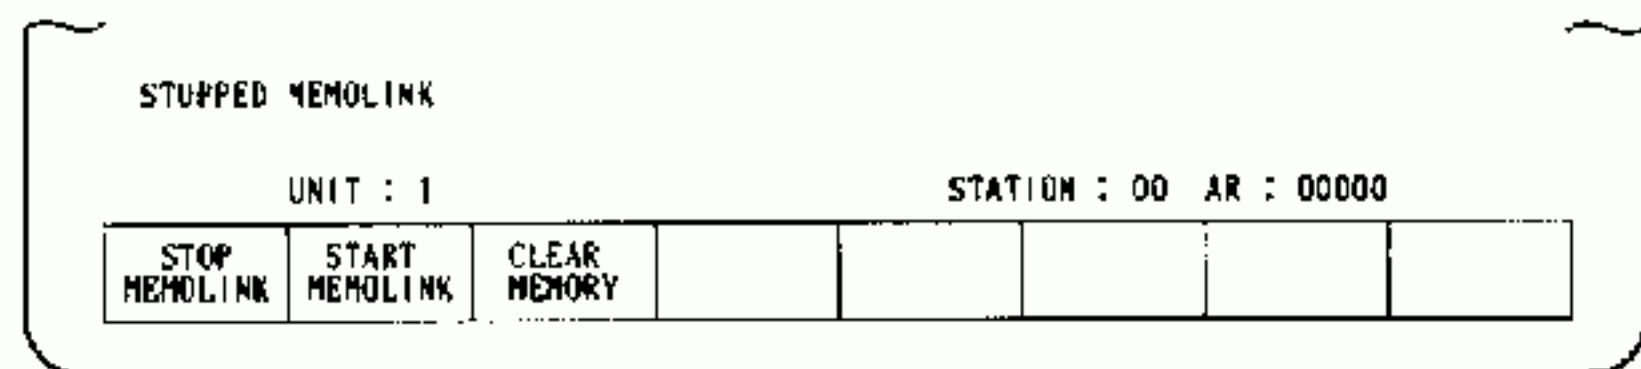

Fig. 5.1.87
2. If "CANCEL" is depressed instead of "CONFIRM," nothing happens, and the display returns to that shown in Fig. 5.1.87.